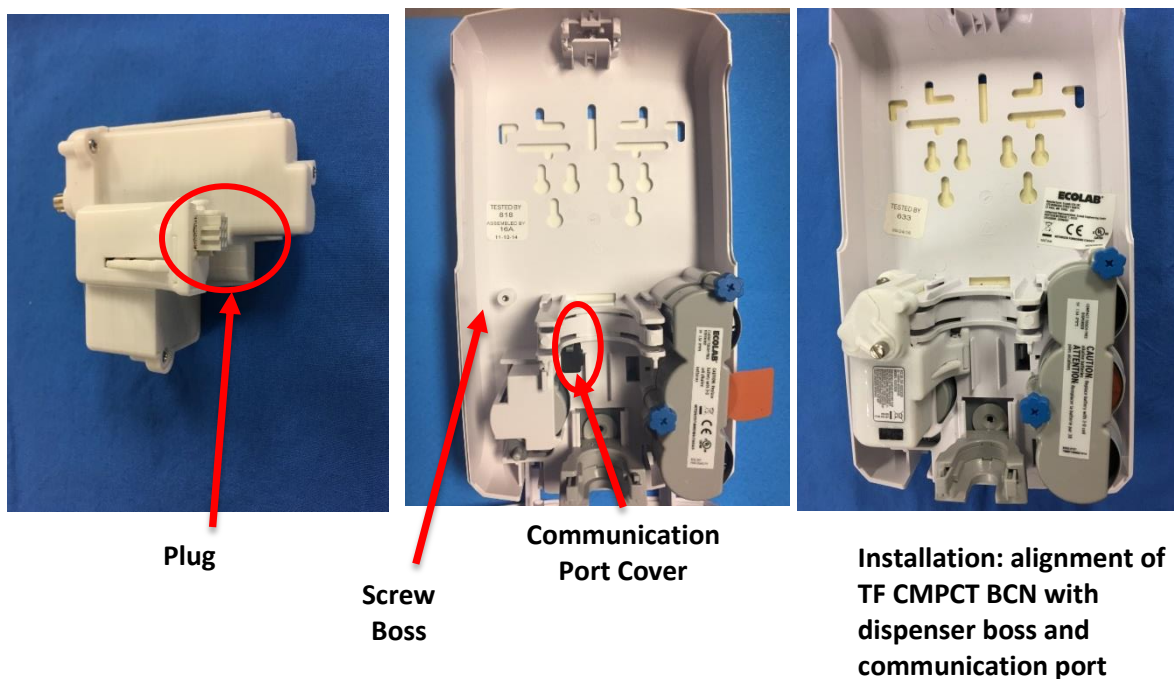

Figure 2. NEXA HHCM TOUCH FREE DISPENSER BEACON (COMPACT) Installation into Nexa™ Touch Free Dispenser
- (1) Open the dispenser by depressing the top latch button.
- (2) Remove product bottle (if any) from the dispenser and set aside.
- (3) Remove the rubber communication port cover in the back of the dispenser (see figure 2) and discard.
- (4) Align the plug with the communication port and the housing’s captive screw with the screw boss in the back of the dispenser (see figure 2).
- (5) Gently but firmly insert the plug (adjusting the plug may be necessary) into the communication port, until it is firmly seated in the port.
- (6) Tighten the captive screw finger tight into the boss.
- (7) Replace the product bottle within the dispenser.
- (8) Close the dispenser.